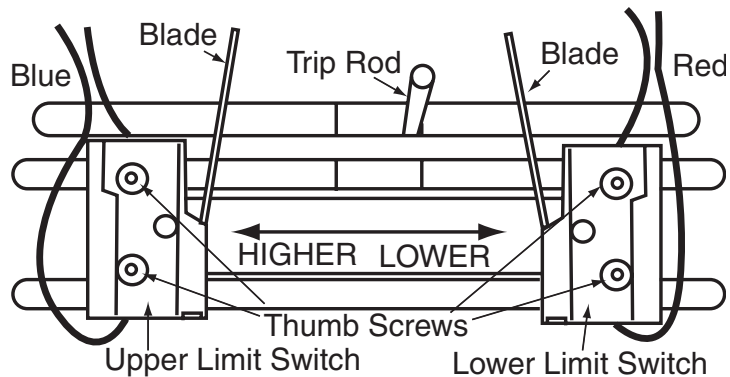

Figure 5
- 1 Operate curtain up to the stored position and set limit (see Fig. 5). Operate curtain to the down position and set limit.